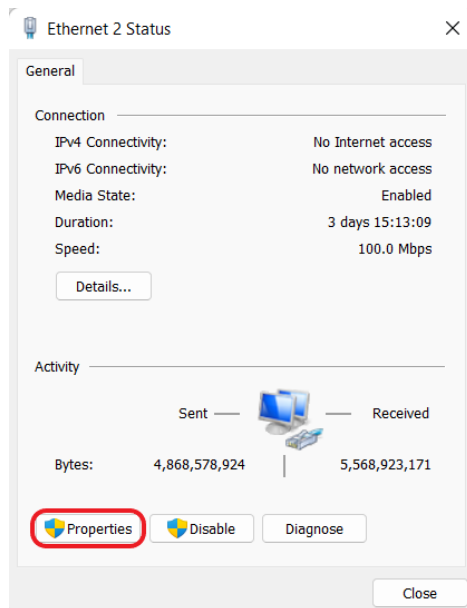

Figure 18: Network Configuration – 'Ethernet Adapter Status' window
3. If your computer is connected to a HEAT VIEW controller already via ethernet cable, the window that pops up will be the 'Ethernet Status' window and you will have to click on 'Properties' as is highlighted in Figure 18 below.